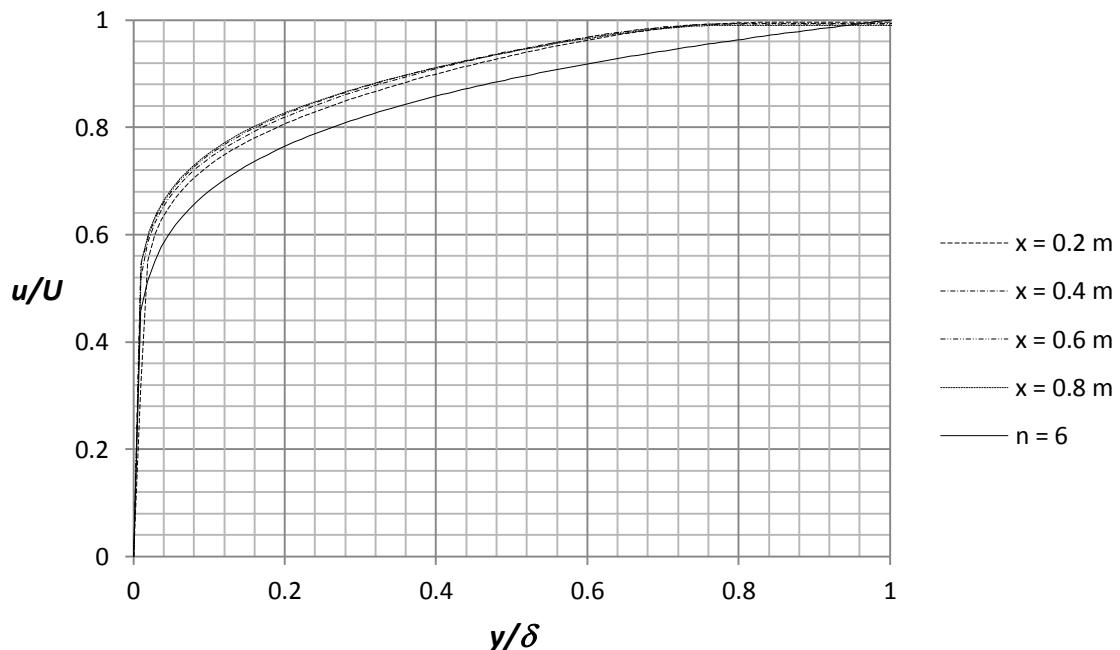

Figure 2.31 The same profiles as in figure 2.30a) compared with one-sixth power law for turbulent profile.
33. Place the file “xy-plot figure 2.31” into the **Local Disk (C:/Program Files /SolidWorks Corp/SolidWorks Flow Simulation/lang/english/template/XY-Plots** folder to make it available in the **Template** list. Repeat step 24 and choose the sketch **x = 0.2, 0.4, 0.6, 0.8 m** and check the box for **Velocity (X)**. Rename the xy-plot to **Comparison with One-Sixth Power Law**. An Excel file will open with figure 2.31. In figure 2.31 we compare the results from Flow Simulation with the turbulent profile for $n = 6$. The power –law turbulent profiles suggested by Prandtl are given by